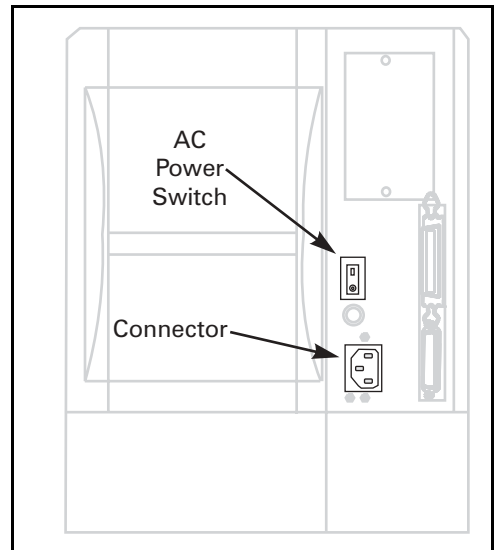

Figure 1
1. Make sure that the POWER switch (see Figure 1) is in the “off” (O) position before connecting the power cord.